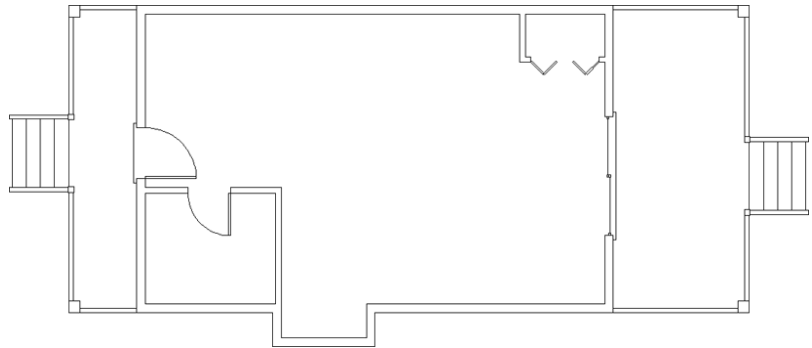

FIGURE 5.36: The cabin after completing the back deck
- The stairs are moved vertically and centered on the back door. Zoom to the drawing's extents. Your drawing should look like Figure 5.36.